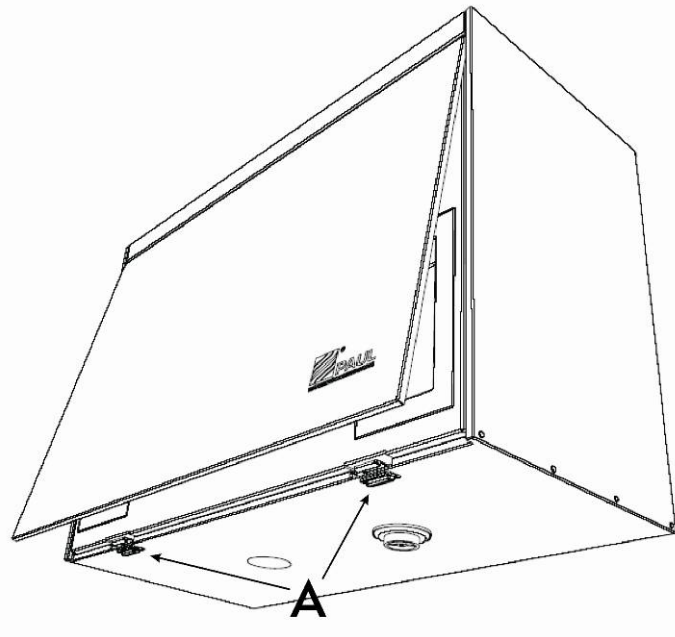

Figure 30: Pressing the spring locks
3. Open the front plate in a corner from maximally 15° according to figure 30.